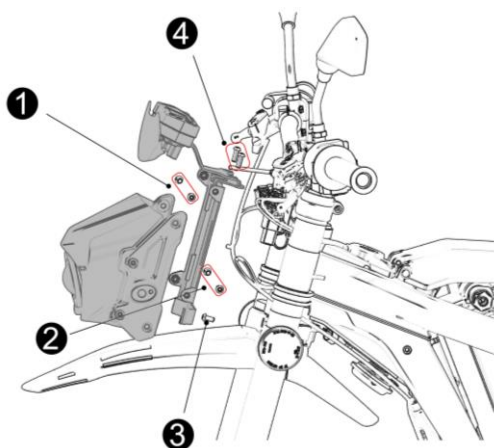

Fig 10
6.4.1 Disassemble front bow cap and instrument (see Fig 10)
- Dismount bolts of bow cap (1)(2) take down front bow cap and disconnect lamp line
- Dismount bolts of support of bow cap (3)(4) disconnect instrument line and take down instrument and support of bow cap.